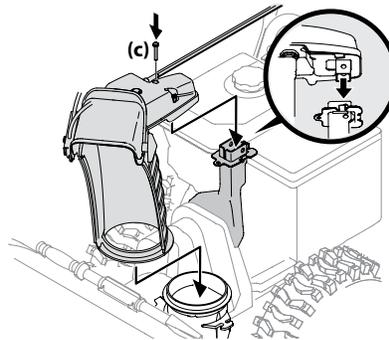

Figure 2-21
3. Place chute onto chute base and ensure chute control rod is positioned under handle panel. Install hex screw (c) removed in Step 1, but do not secure with wing nut at this time. See Figure 2-21.